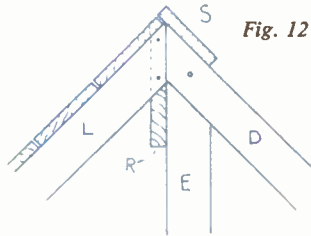

Fig. 12
When the glazing is done, complete the roof by attaching a board (S) over the greenhouse side of the ridge (Fig. 12).